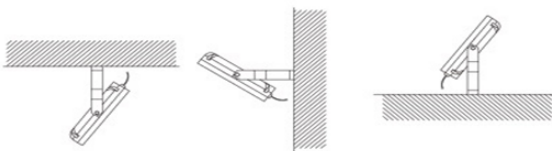

FIGURE 1
- Fix the mounting bracket using suitable screws as shown in the examples below. FIGURE 1.